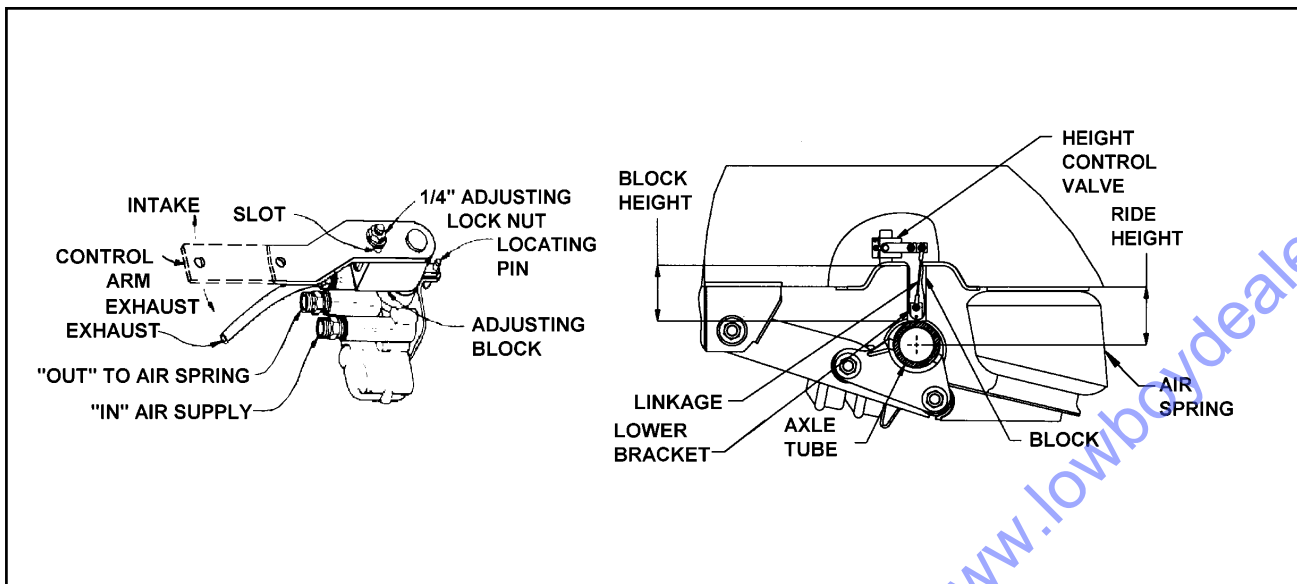

Figure 4-5 Air Ride Height Adjustment
4-6.3 Air Ride Height Adjustment. (See Figure 4-5 for parts identification).
- Disconnect linkage at the control arm and raise control arm to the "up" position, raising the trailer until a block can be placed between axle tube and undercarriage frame (See Figure 4-5).
- f. Loosen the 1/4" adjusting lock nut located on the adjusting block, allowing the control arm to move approximately 1 inch. Move the adjusting block until holes align, then insert locating pin. (See Figure 4-5).